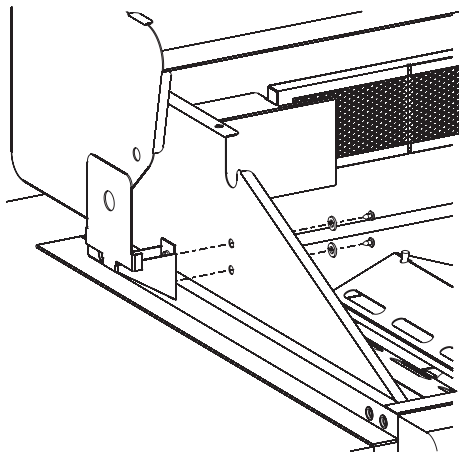

Figure 10
11. Attach the motor bracket to the left side of the grill with two (2) lock washers, and 1/4" screws. See Figure 10.